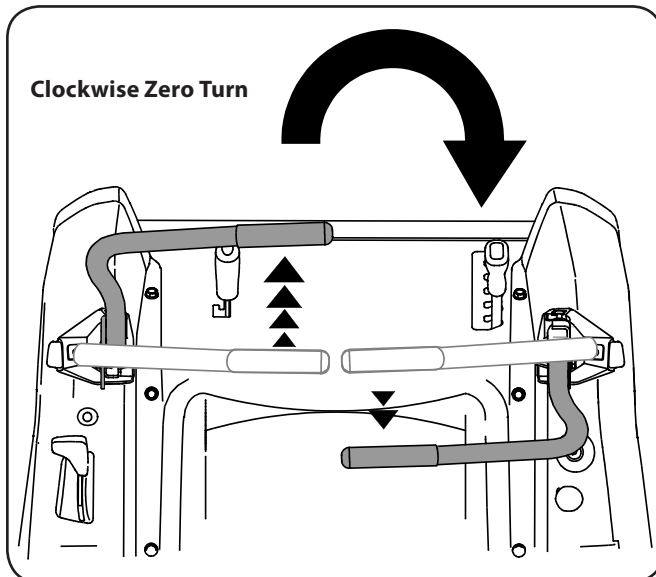

Figure 5-9
- To turn clockwise, move the left control lever forward while simultaneously moving the right control lever rearward. See Fig. 5-9.